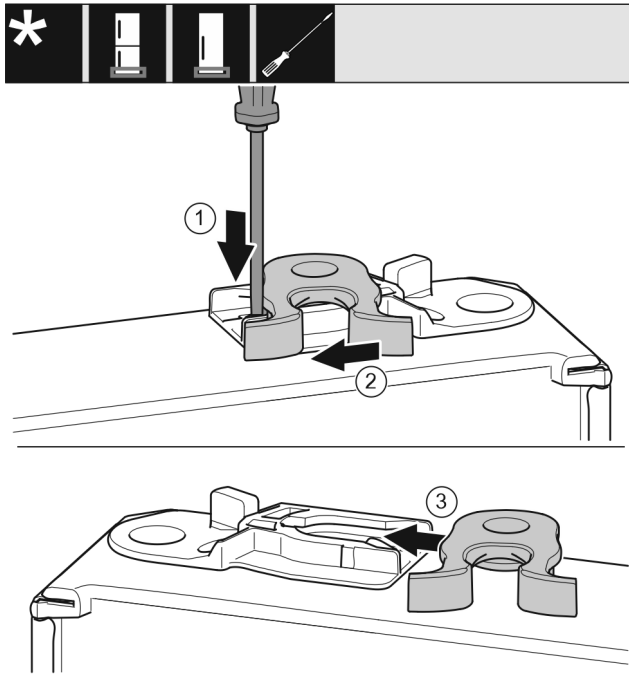

Fig. 31
- ▶ Use a slotted screwdriver to push the tab Fig. 31 (1) downwards.
- ▶ Pull the closing hook Fig. 31 (2) out of the guide.
- ▶ Insert the closing hook Fig. 31 (3) into the guide on the other side.